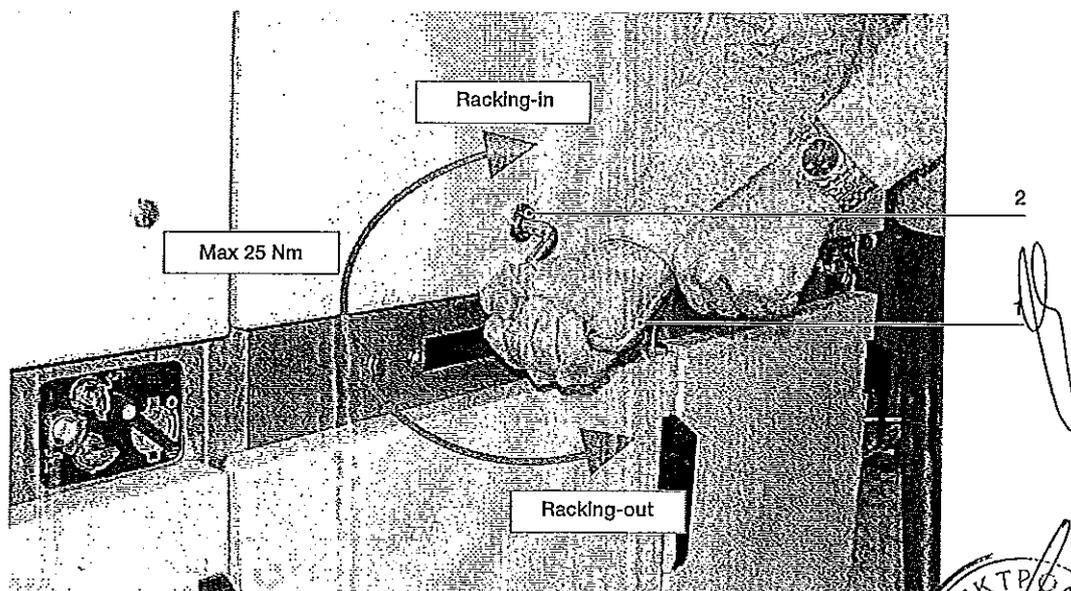

Fig. 9
For racking-in/racking-out of the switchgear, fully insert the lever (1) (fig. 9) in the appropriate seat (2) and work it clockwise for racking-in, and anti-clockwise for racking-out, until the limit switch positions are reached.
- Insert the manual racking-in lever (1) in the special coupling (2) Fig. 9, and take the motorized truck to about half its run
- Remove the manual lever (1) from the coupling (2) Fig. 9